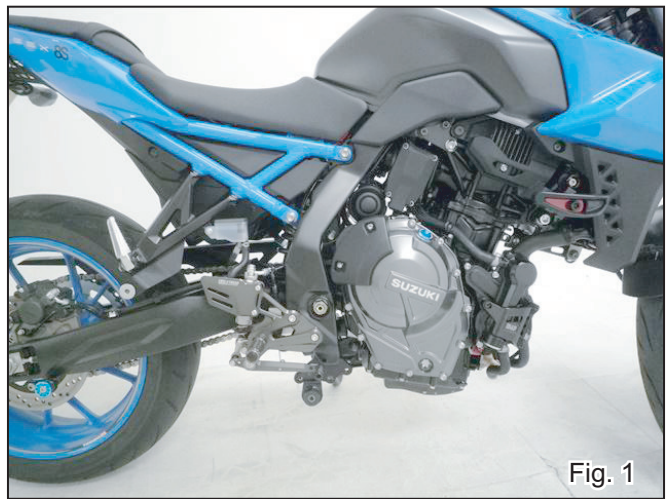

Fig. 1
- 2) According to genuine service manual, remove the lower fairing and disconnect O2 sensor couplers from the vehicle. Then remove the whole exhaust system from vehicle while making sure not to damage the frame or other components. Stock nuts and bolts removed at this stage are reused when mounting Yoshimura product (See Fig. 1)